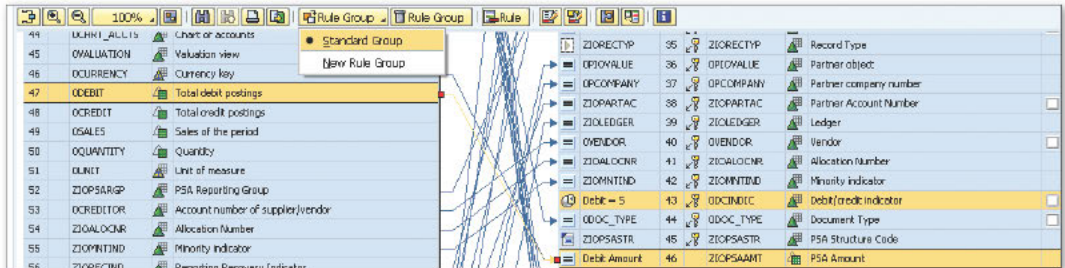

Figure 1 Map Amount to Debit
2. Map the **AMOUNT** field to **DEBIT** from the source and give a constant value for **DEBIT/CREDIT INDICATOR** (here, **DEBIT = S**) to differentiate between the debit amount and credit amount (see Figure 1).